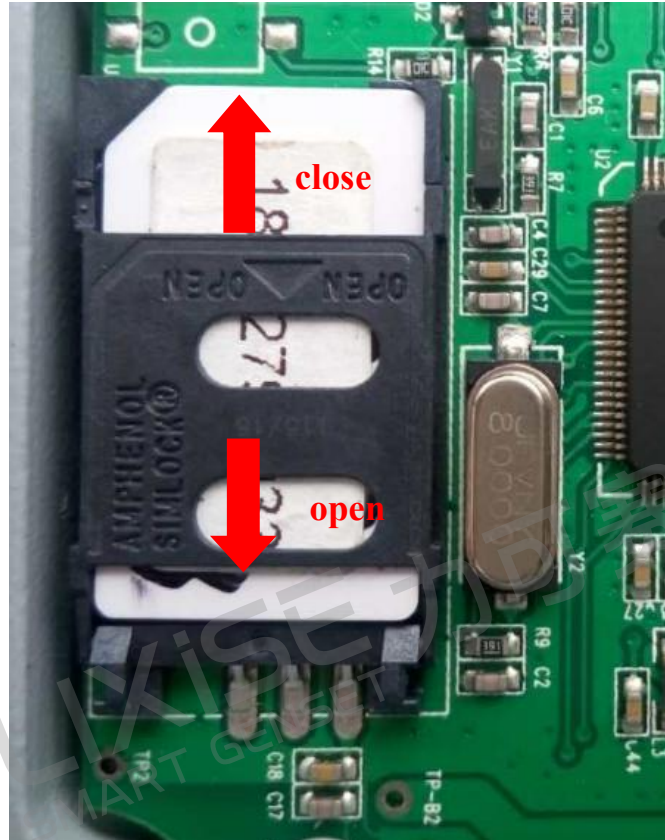

Fig.1
1.1. First, remove the rear cover and install the card (as shown in Fig.1).